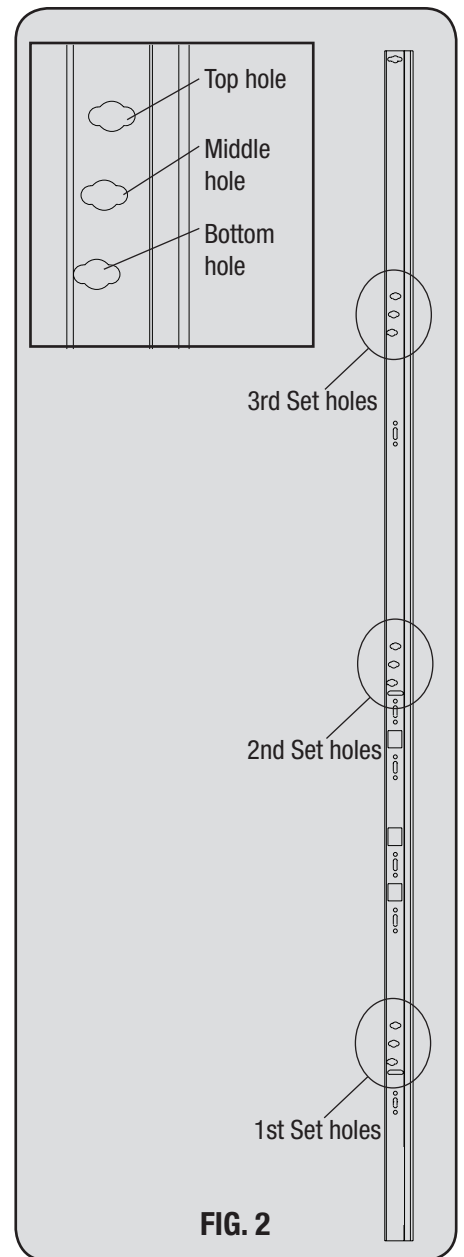

FIG. 2
⑪ Attaching Adjustable Flagangle to Quick Install Horizontal Track
To install horizontal track, place the curved end over the top roller. Align the bottom of the horizontal track with the top of vertical track. Secure the track to the flagangle with (1) stud plate and (2) flange hex nuts (see **Fig. 2**).